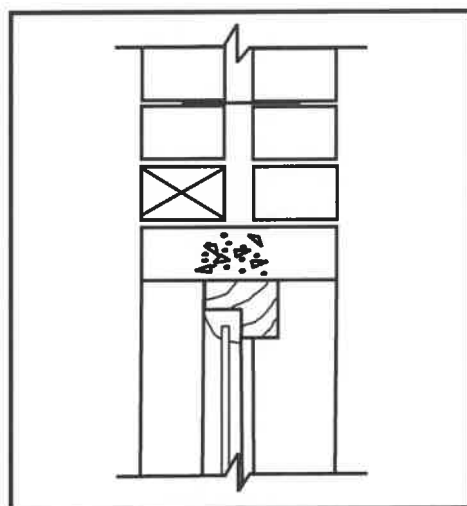

FIGURE 5.4
- 5.4 FIGURE 5.4 below shows a sectional view of a cavity wall.